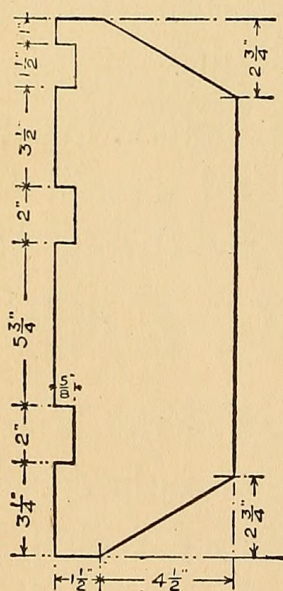
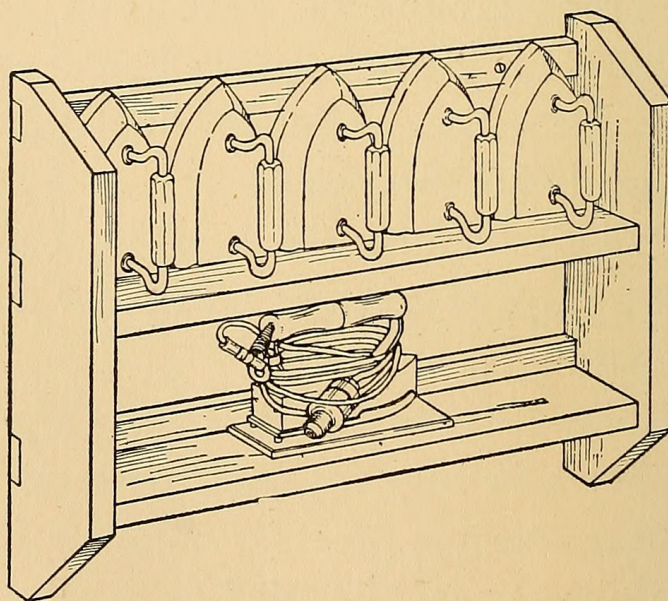

FIG. 159. — Pattern for Side Pieces.
FIG. 158. — Flat-iron Rack.
**The Flat-iron Rack** (Fig. 158) is easy to make. Lay out the end pieces to the dimensions given on the pattern (Fig. 159), with the top and bottom beveled and the